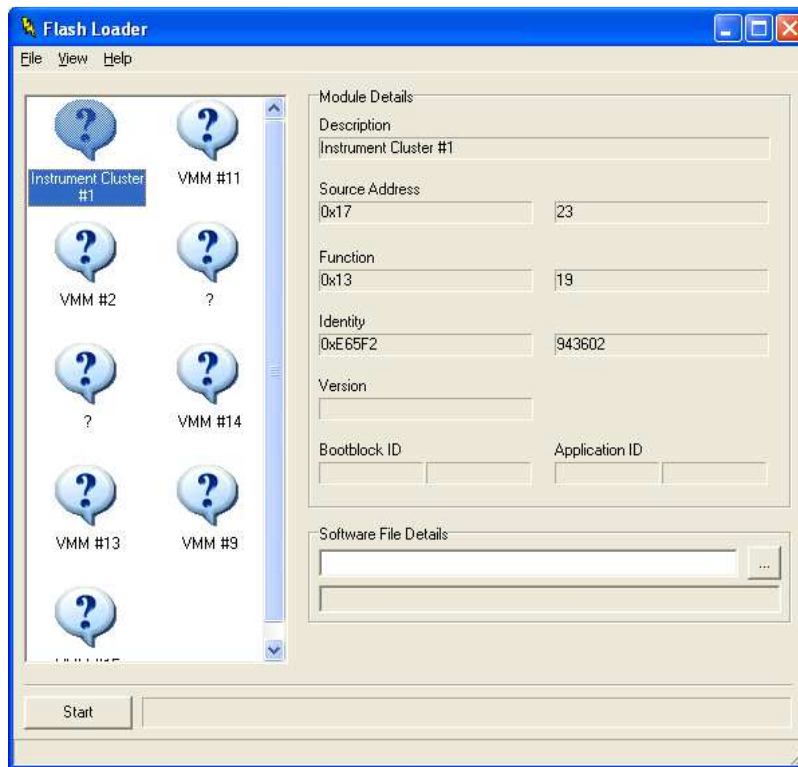

Figure 2: Flash Loader Screen
7. Referring to figure 2, select the icon labeled instrument Cluster #1 or NF Cluster and verify that it has a source address of 0x17.